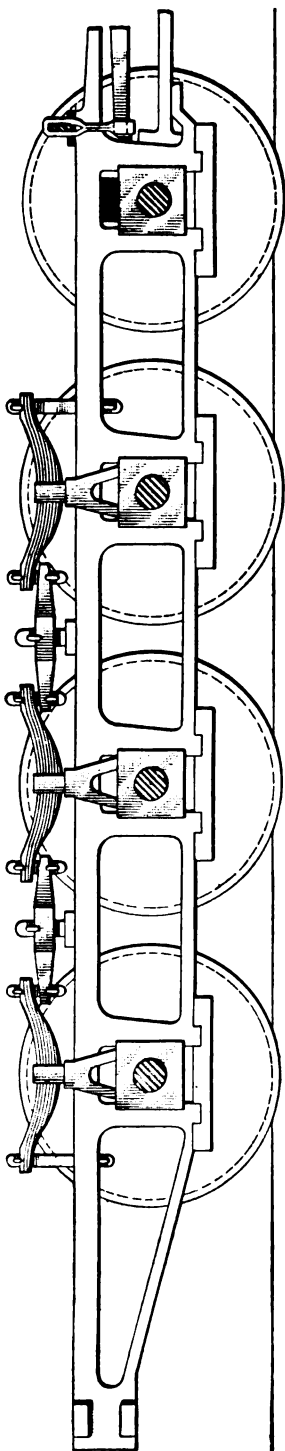

FIG. 57.
**129.** In case of a broken front driving spring on an engine having a spring rigging like that shown in Fig. 57, the cross-equalizer will drop down on the frames; in that event, jack up the back end of the long truck equalizer and block between the top of the frame and the bottom of the cross-equalizer on the end next to the broken spring, so as to hold the back end of the truck equalizer in its proper position. Next run the second